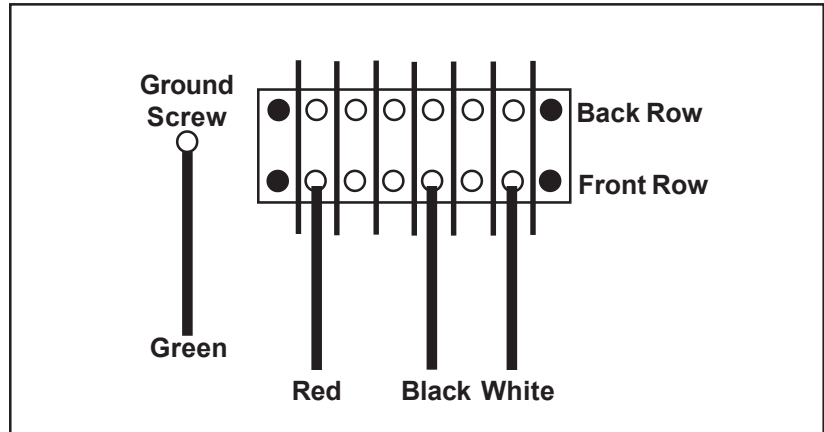

Figure 74. Electric Cord Wire Connections in Table Bottom Tray
2. Connect the four wires to the terminal strip as shown in Figure 74.